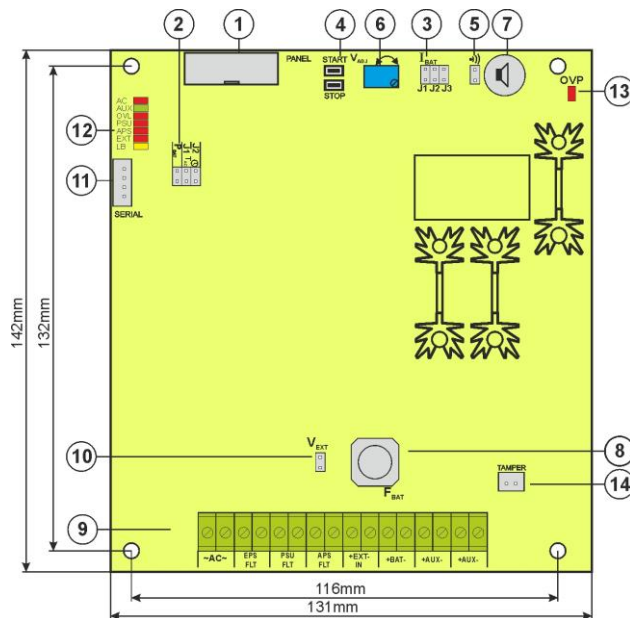

Fig. 2. The view of the PSU's PCB.
Table 1. Elements of the PSU pcb (see Fig. 2).
①	Insolation transformer
②	PSU board (see Tab.1, fig.2)
③	TAMPER ; micro-switch (contacts) of tamper resistance ( NC )
④	FMAINS fuse in the supply circuit (230V/AC)
⑤	L-N power supply connector 230V/AC,  PE protective connector
⑥	Battery connectors: positive: +BAT = red, negative: - BAT = black
⑦	Tamper grip